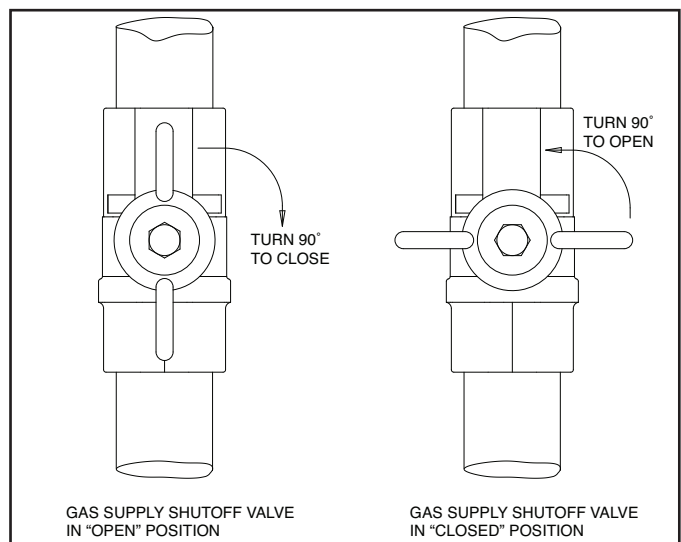

Figure 8.
5. Open the gas supply shut off valve, by turning the handle to be parallel to the gas piping. (See Figure 8).
6. Wait five (5) minutes (longer for propane) to clear out any gas, then smell for gas, including near the floor. If you then smell gas, STOP! Follow “B” in the safety information above on this page. If you don’t smell gas, go to next step.
3. Close the gas supply shut off valve, by turning the handle to be perpendicular to the gas piping. (See Figure 8).